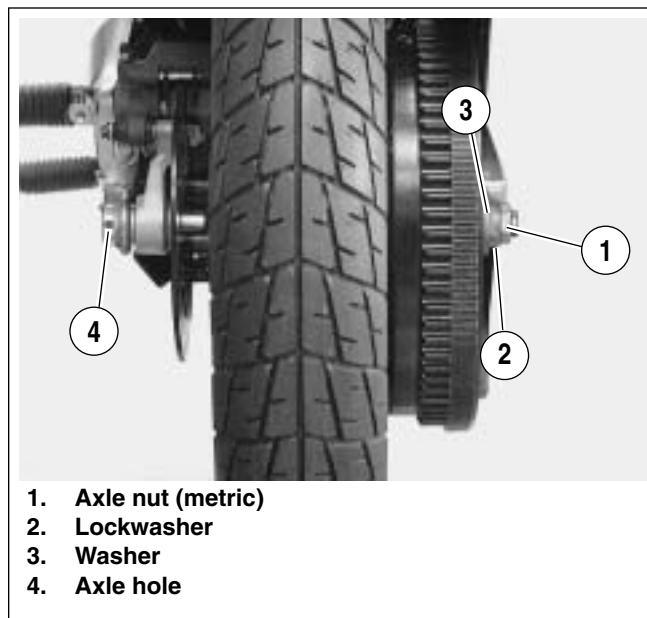

Figure 1. Rear Sprocket
5. See Figure 1. Place rod or screwdriver through axle hole. Loosen rear axle nut (metric).